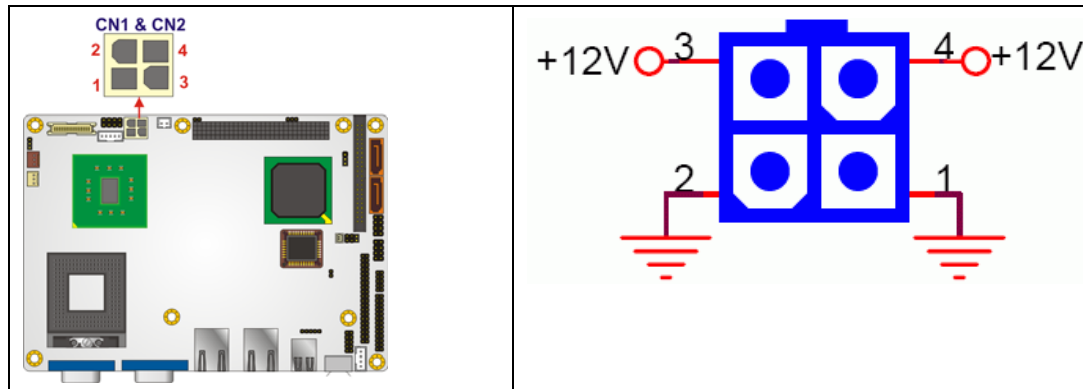

Figure 4-3: +12V ATX Power Connector Location
- CN Location:** See Figure 4-3